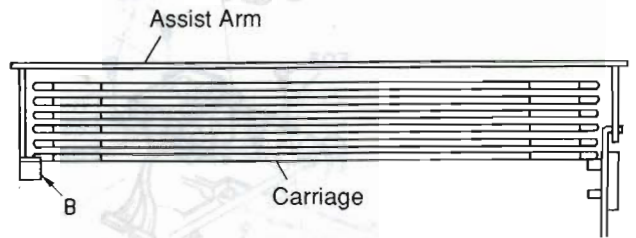

Fig. 2.2.2 Leveling the carriages at the left side
- (1) Remove the Mechanism Ass'y. Refer to item 2.1.
- (2) Remove screws F01 (4 pcs.) and disassemble F02 (Top Cover).
- (3) Remove F03 (Assist Arm).
Also, make sure that the lowest carriage is held by the angle "B" of F03 (Assist Arm) as shown in Fig. 2.2.2 so that the carriages are in horizontal position. (Refer to "Leveling the carriages at the left side" in item 2.7.3.)